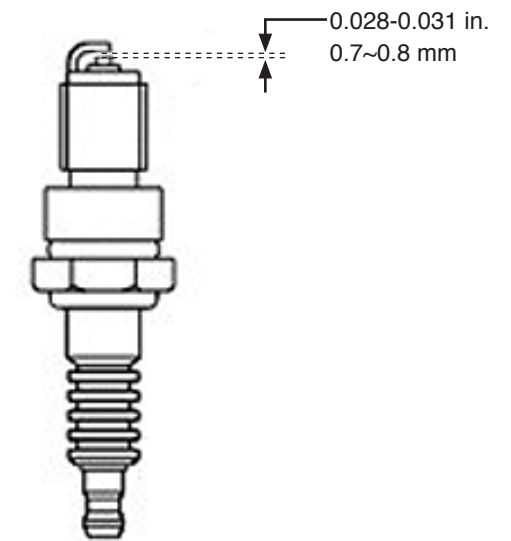

Figure 18
6. Check that the gap of the spark plug is 0.028-0.031 in. (0.7-0.8 mm). (Figure 18)